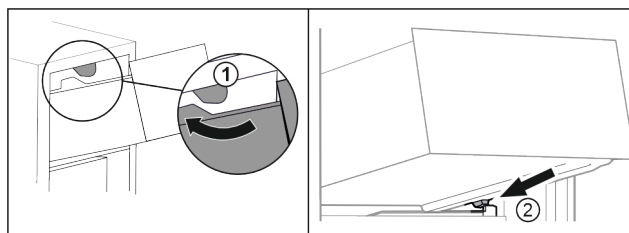

Fig. 14
- ▶ Guide drawer around the upper stoppers. Fig. 14 (1)
- ▶ Place drawer at an angle behind the lower stoppers onto moulded rib. Fig. 14 (2)